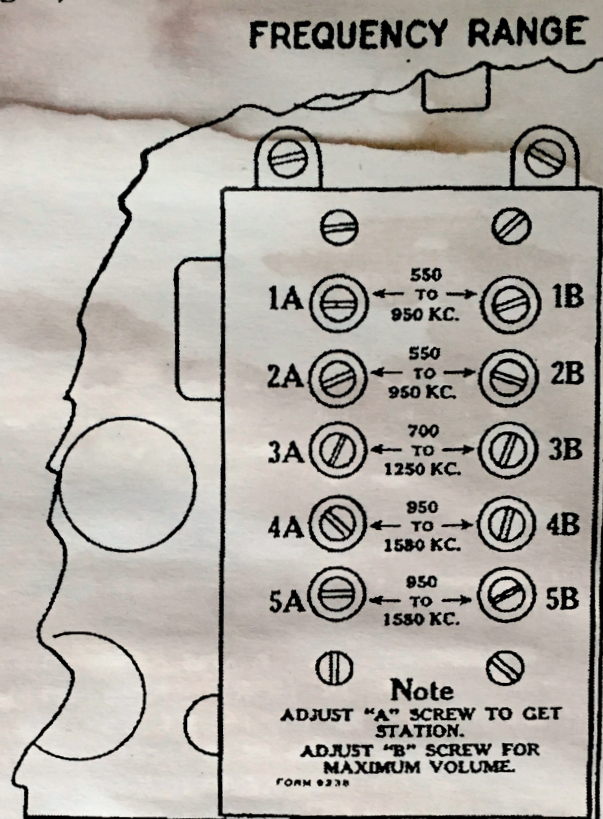

FIG. 5
2. Arrange call letters in the order of the station frequency (Kilocycles). The lowest frequency station appearing first. Note that the frequency of each station falls within the range specified in Fig. 5 on Page 9.
4. Remove the front cover on the receiver case. Two slots are provided at each side of the case so that the cover can be pried off easily. **CAUTION:** If cover is pried off with a screwdriver do not push screwdriver too far into case. After the cover has been removed you will note two rows of adjusting screws in the receiver (see Fig. 5).